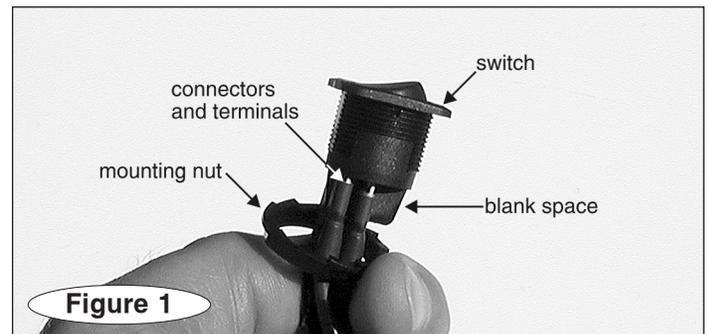

Figure 1
- You will remove the mounting nut (Figure 1) and the wiring connectors (Figure 1) to install the switch. You must be able to reach behind the switch to reattach them.
11. Position the switch in the hole, with the blank space (Figure 1) at the top.